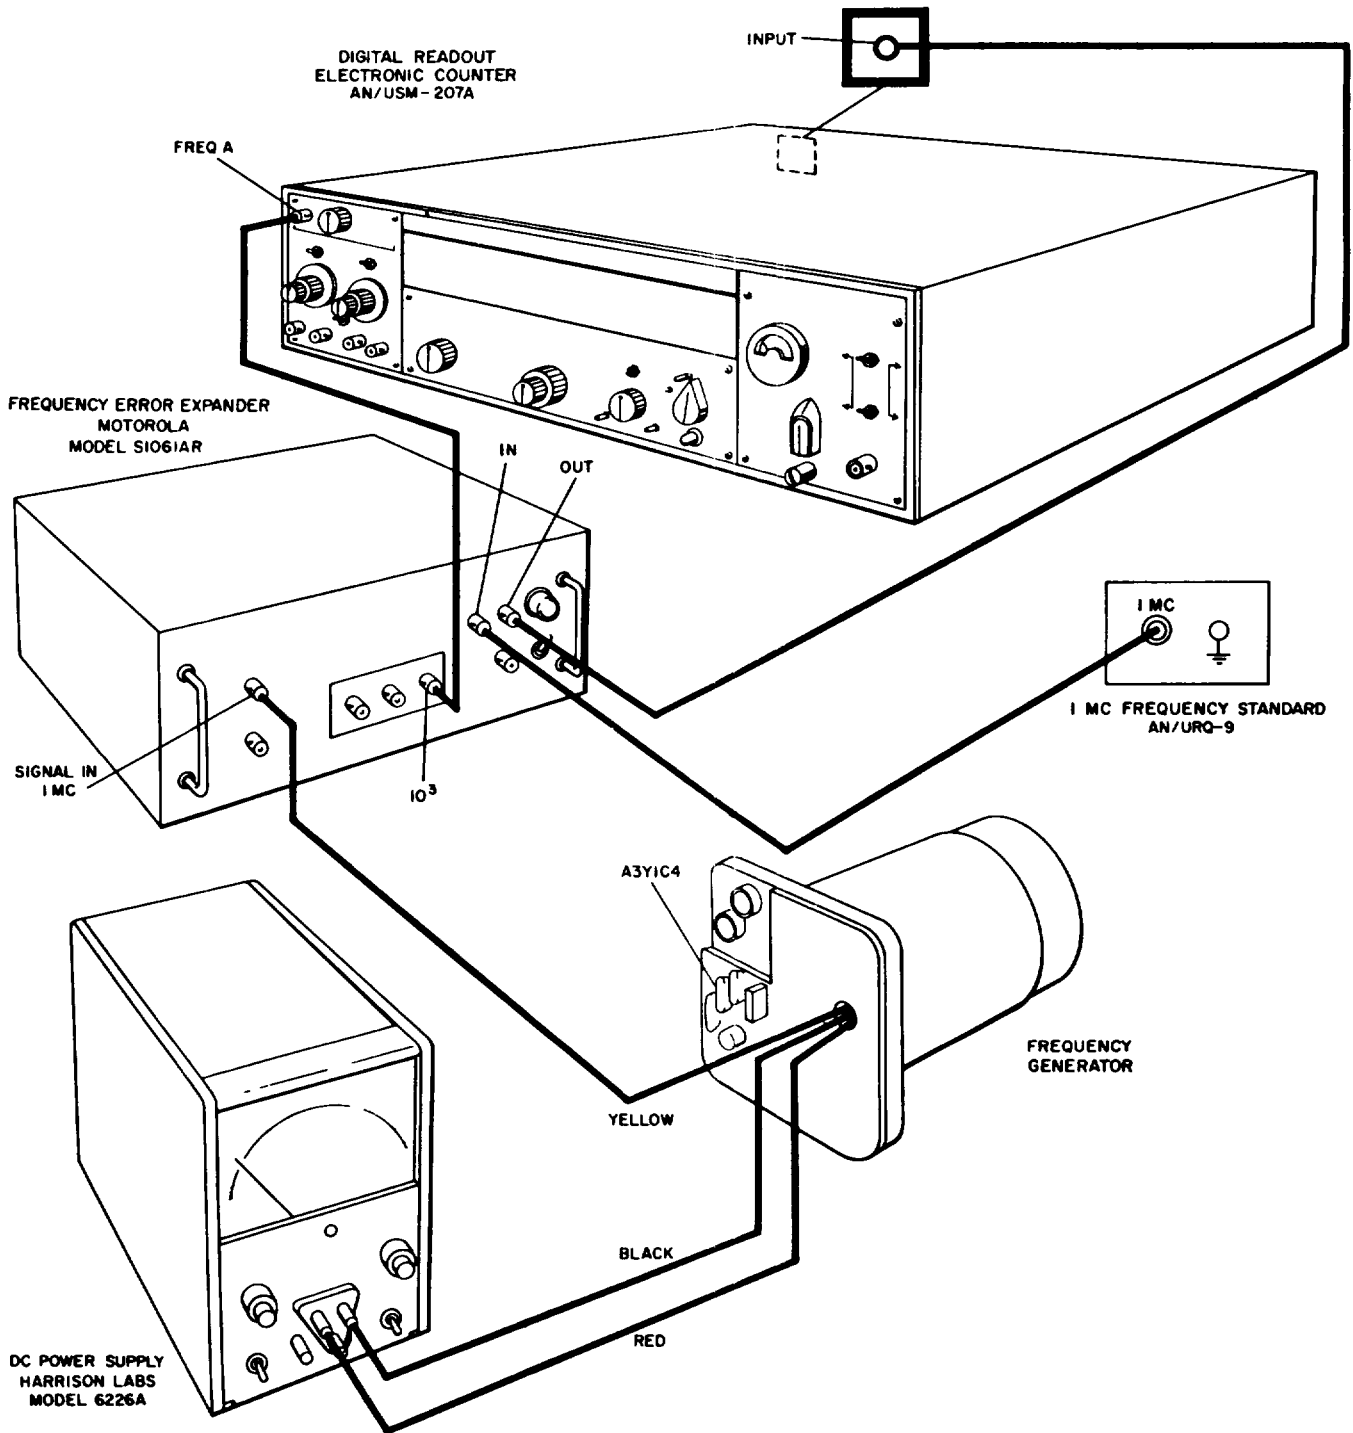

Figure 5-30. Selecting Capacitor A3Y1C4, Test Setup (OVENAIRE)
- (2) Follow the procedure of steps (1) through (8) of paragraph ae, and separate the frequency generator from the crystal oven.
- (3) Place frequency generator into a temperature chamber preheated to + 75°C; leave it in the temperature chamber for a minimum of two hours.
- (4) Remove the frequency generator from the temperature chamber.
- (5) Connect frequency generator within the test setup shown in figure 5-30. .